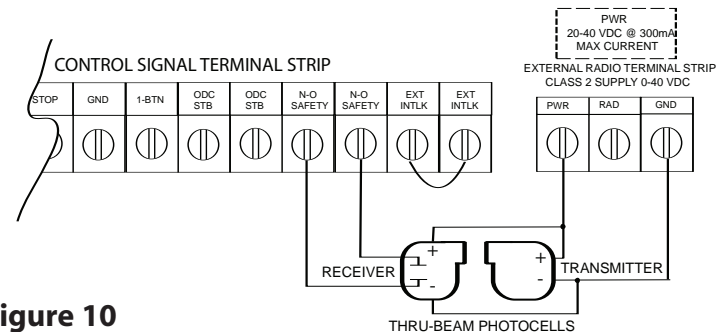

Figure 10
1) Nominal 24 Volt DC Commercial photocells with normally open contacts can be connected as shown in **Fig. 10**.